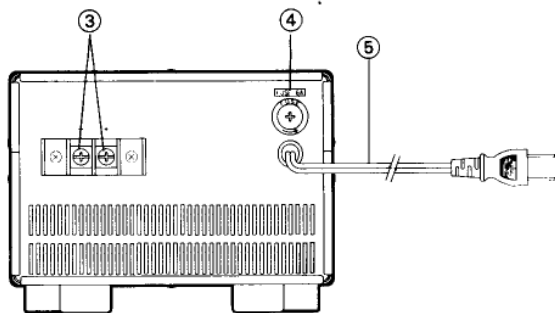

Fig. 4-2. Rear Panel
Fuse Holder is located on rear panel for U.S.A. version as shown in Fig. 4-2. ④.